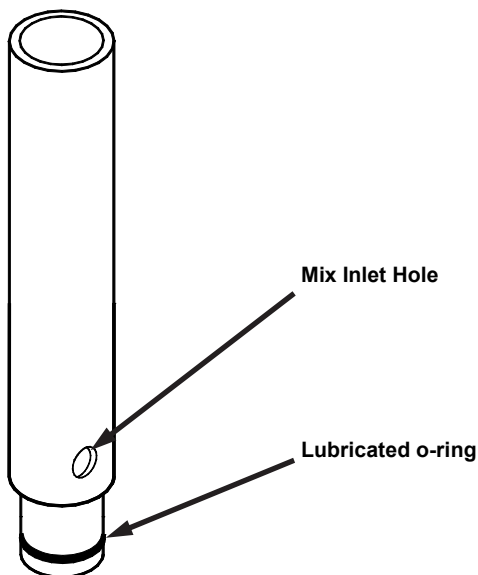

Fig. 5
1. Remove the carburetor tube (Fig. 5) from the mix inlet hole and lay in the bottom of the mix pan.